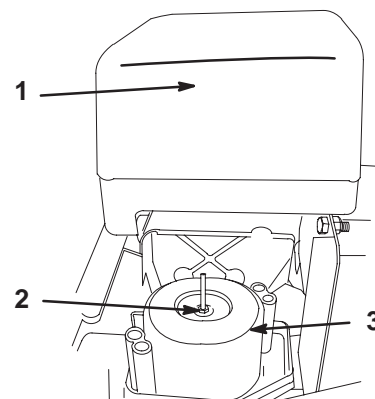

Figure 40
4. Remove the wingnut from the air cleaner cover and remove the cover (Fig. 40).
5. Remove the wingnut from the air filters and remove the filters (Fig. 40).
1. Carefully slide the foam filter onto the paper filter (Fig. 40).
2. Place the filter assembly onto the air cleaner base and secure it with a wingnut (Fig. 40).
3. Install the air cleaner cover and secure it with the wingnut (Fig. 40).